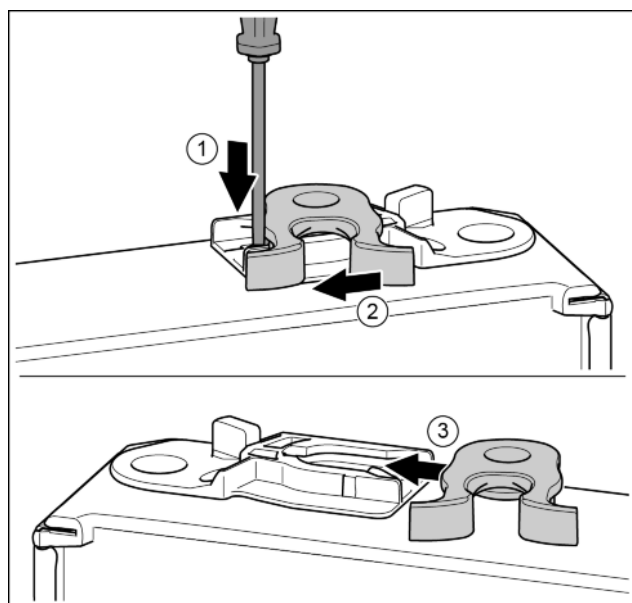

Fig. 18\*
- Push the tab downwards with a slotted screwdriver.\* Fig. 18 (1)
- Pull the door latch out of the guide.\* Fig. 18 (2)
- Push the door latch into the guide on the other side.\* Fig. 18 (3)